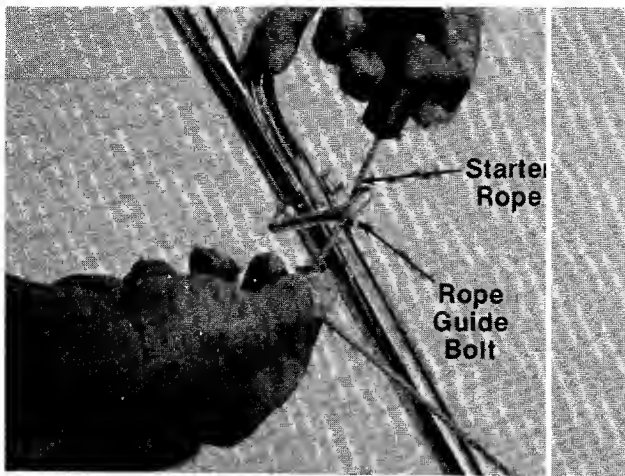

FIGURE 12.
12. Slip the starter rope into the rope guide bolt as shown in figure 12.